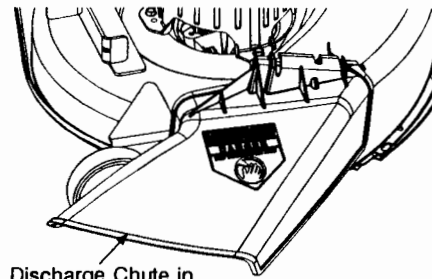

FIGURE 4
3. Carefully allow the discharge chute to pivot downward. See Figure 4.